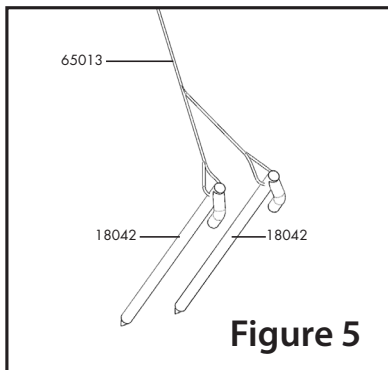

Figure 5
11. Insert one stake (18042) at a time through the ends of the 12' split guy-wire cable (65013) (**Fig. 5**). Pound in stakes at an angle.